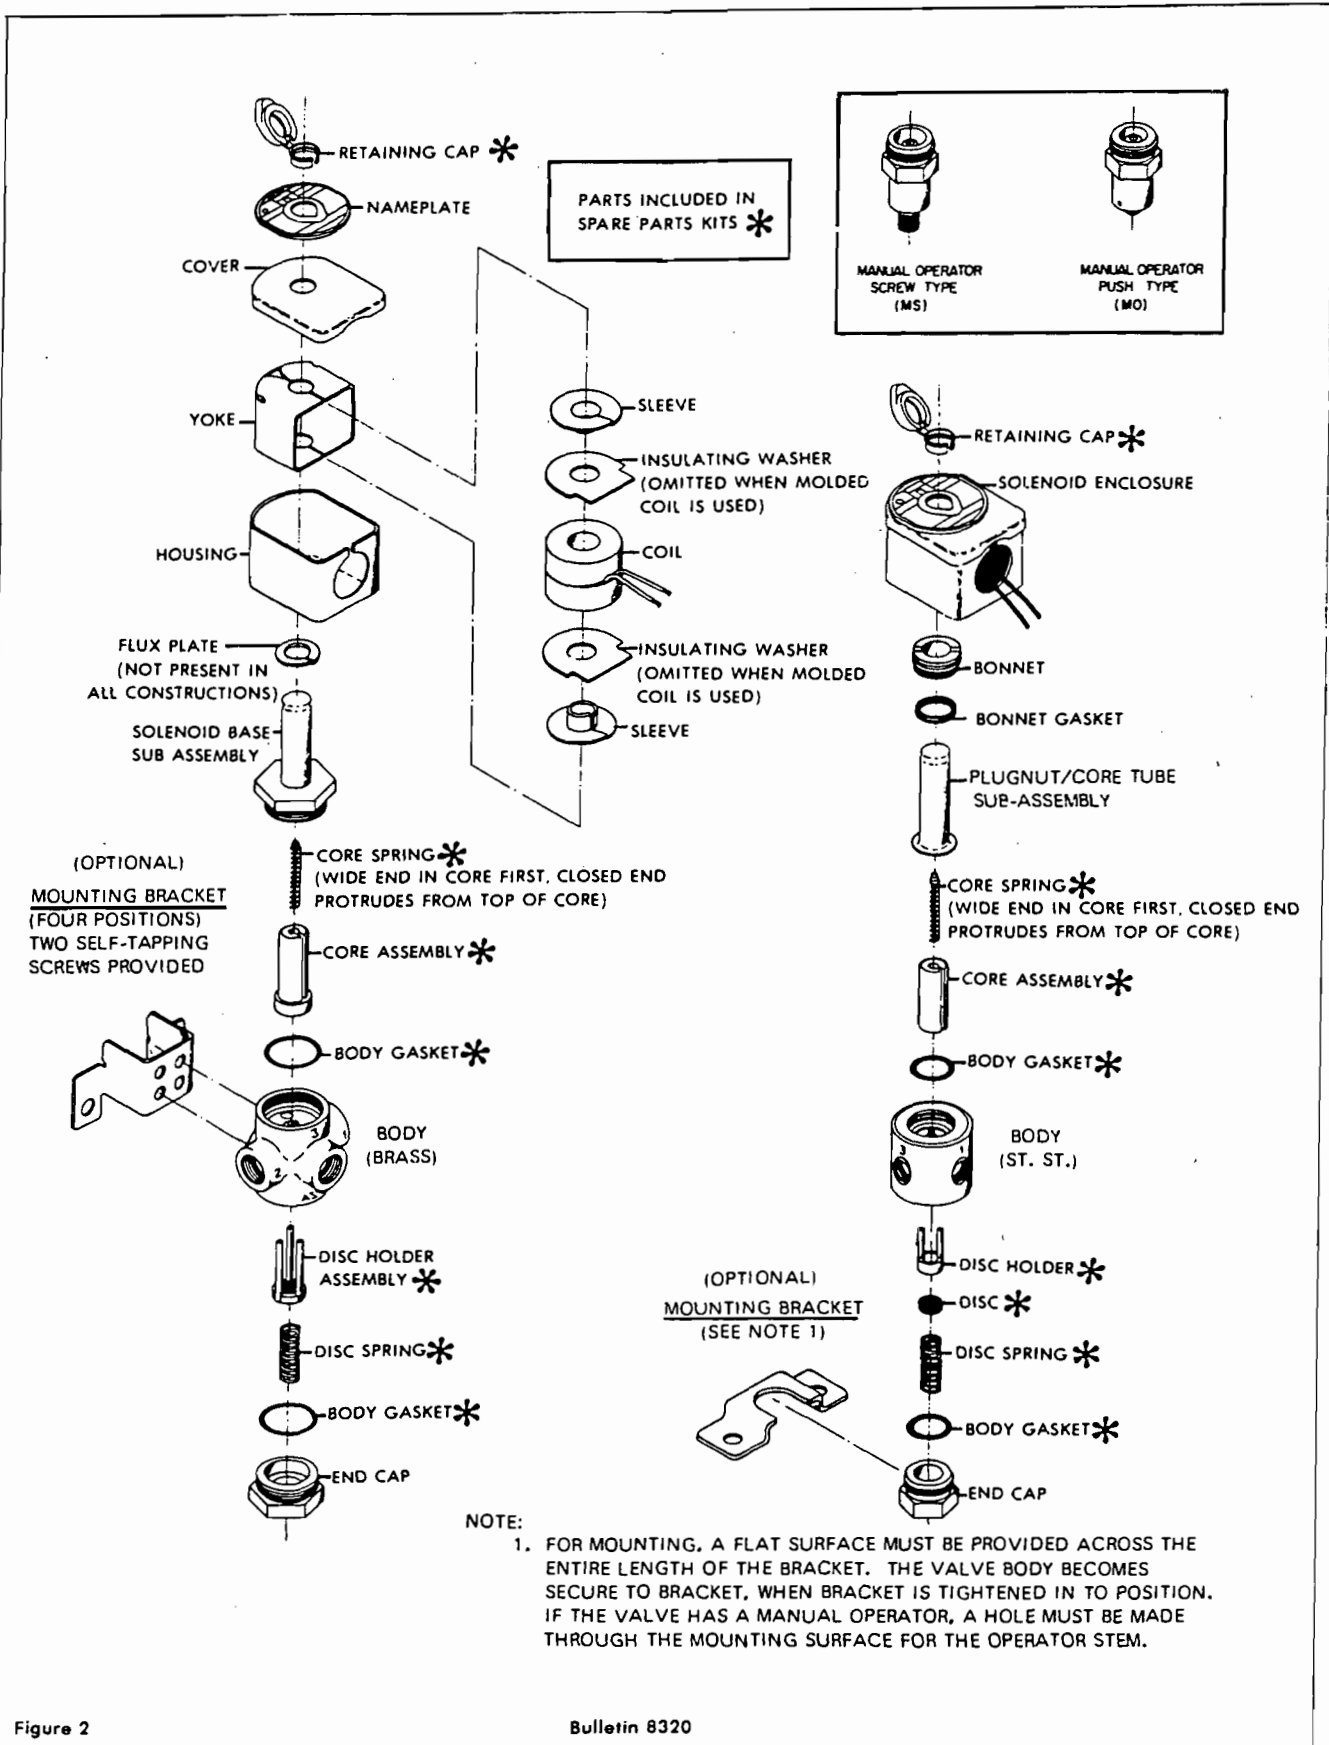

Figure 2
**COIL REPLACEMENT (REF. FIG. 2)**
**VALVE DISASSEMBLY AND REASSEMBLY (REF. FIG. 2)**